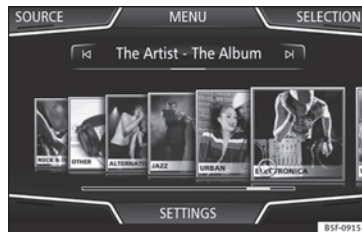

Fig. 152 Selection by cover.
Clicking on the current cover >>> Fig. 151 ① will display all of the album covers available in the active Media source >>> Fig. 152.